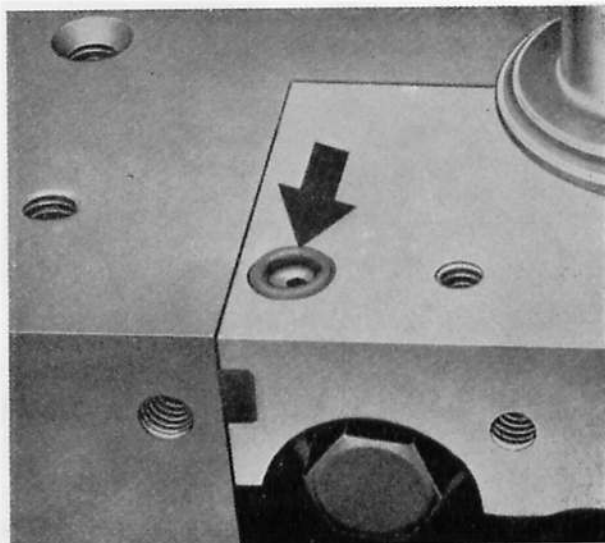

Fig. A.65. Showing the oil seal assembled to the front main bearing cap
5. Smear a new oil seal with grease and install in the front main bearing cap front face (Fig. A.65).